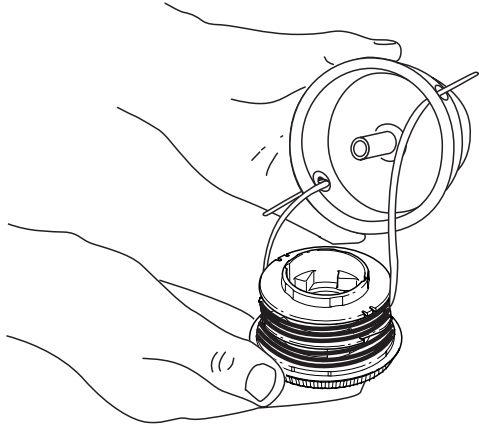

Fig. 22
3. Insert the ends of the prewound inner reel line into the outer spool eyelets (Fig. 22). Push the new inner reel, arrow side up, into the outer spool.